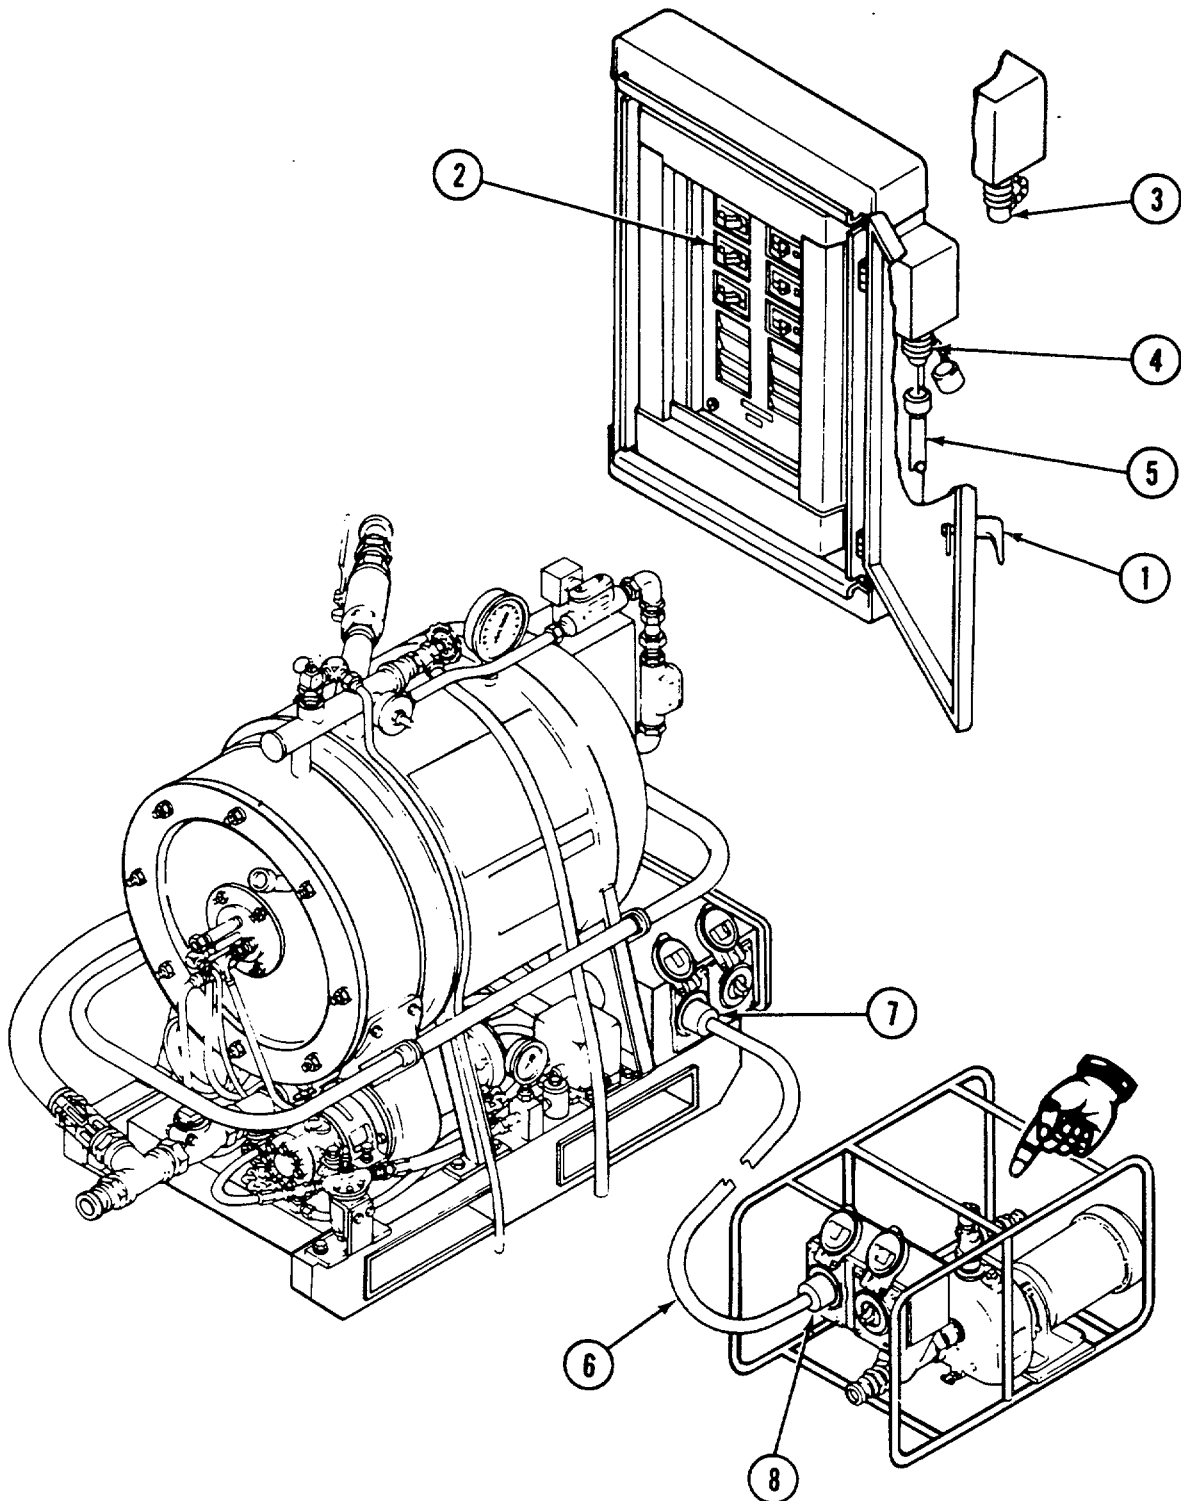

FIGURE 2-12. Electrical panel cable connection.
- (1) Open electrical panel door (1, FIG. 2-12) and turn off all circuit breakers (2).
- (2) Remove dust cap (3) on main power connection (4).
Ensure that power cable (6, FIG. 2-12) does not touch or cross water hoses, exhaust ducts, or fuel lines. Melting/damage can occur causing leaking fuel and water or electrical hazards. Death by electrocution, fire, or explosion could result.